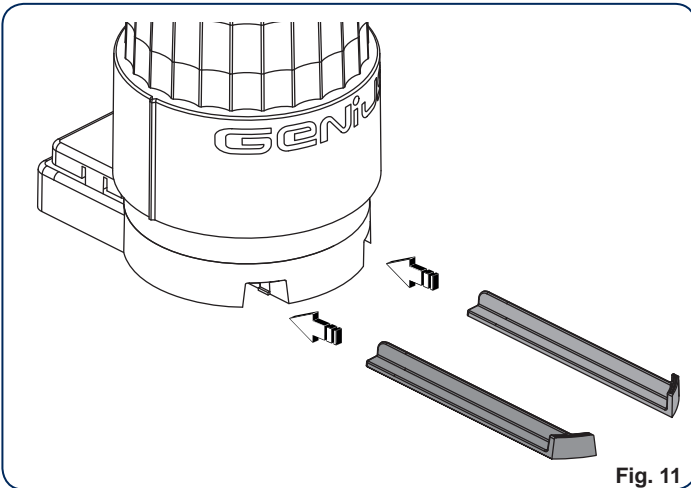

Fig. 11
- Install the two front slides (Fig. 11).